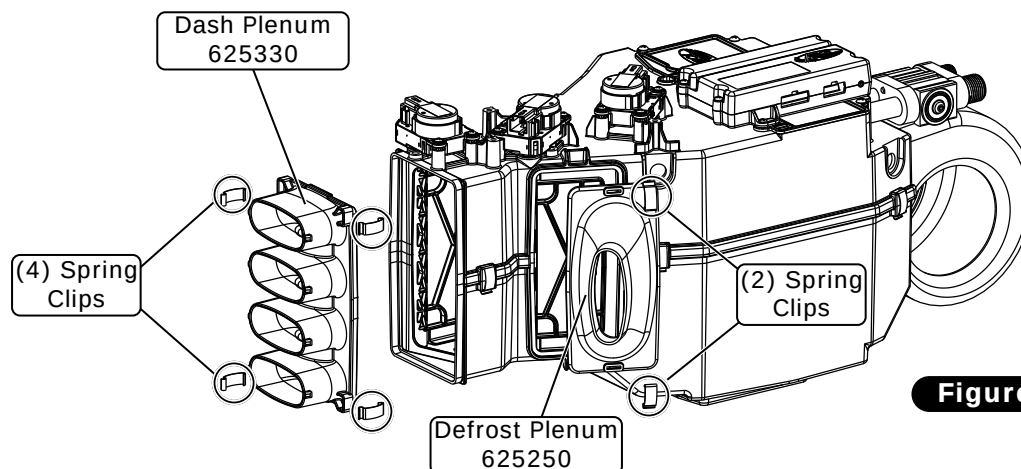

Figure 1
1. On a work bench, assemble the defrost plenum onto the evaporator module with (2) spring clips (See Figure 1, below).
2. Assemble the dash plenum onto the evaporator module with (4) spring clips (See Figure 1, below).